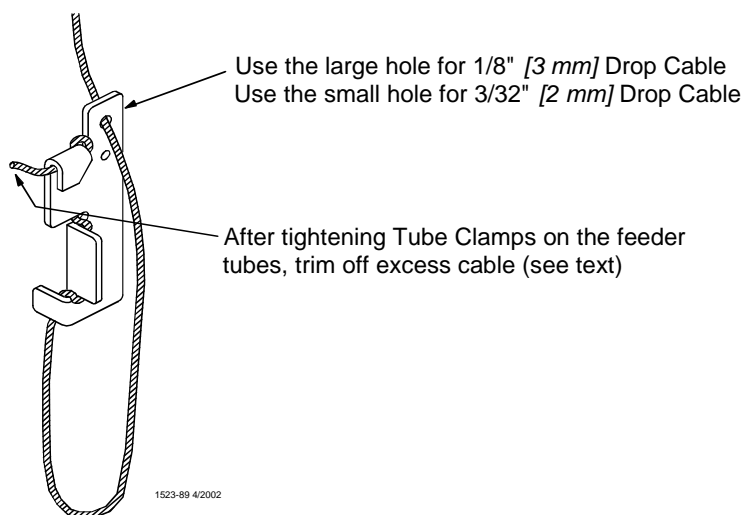

Figure 33. Assembling Feeders on the Tubes
14. Finally, tighten the Tube Clamps on the feeder tubes. Clamp the joints securely, but do not crush the tubes. Re-adjust all Adjustment Levelers as needed and trim off excess cable as shown in **Figure 33**.
2. Install the Feeder Boot by sliding the straight end of the Feeder Boot into the belled end of the Feeder Tube. Install a clamp/anti-roost bracket on the bell and tighten. The Feeder Boot must be level with the open top of the Feeder Boot flat. See **Figure 33**. **DO NOT INSTALL THE ANCHOR BEARING AND BEARING RETAINER AT THIS TIME.**